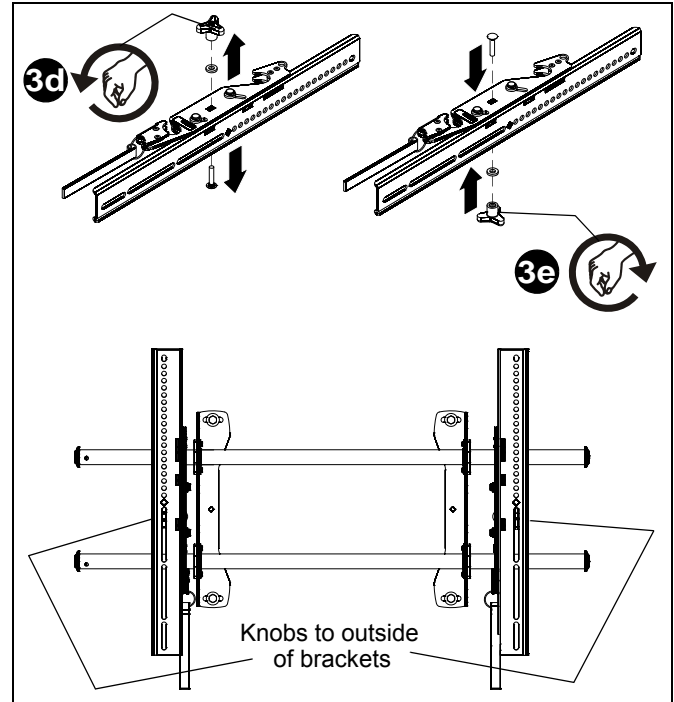

Figure 6
3. If necessary, the tilt interface bracket knobs may be switched to allow the interface brackets to be reversed. (See Figure 6)